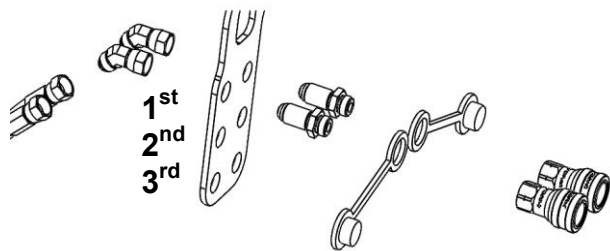

Figure 16: Coupler bank
20. Connect the 45 degree fittings to the bulkhead following the orientation shown in Figure 16.